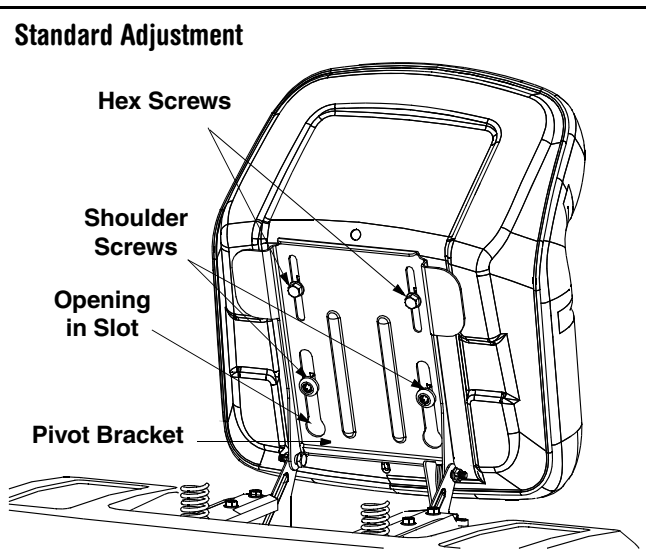
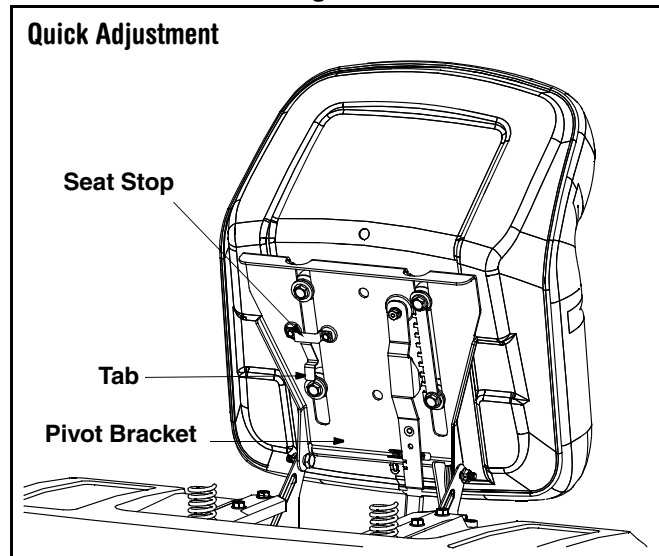
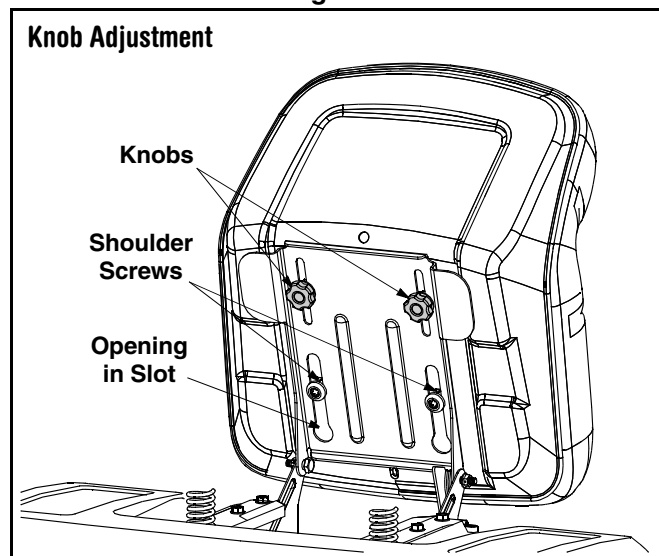

Figure 3
Figure 4
Figure 5
If the seat for your tractor did not come attached, refer to Figure 3, Figure 4, and Figure 5 to identify your tractor's seat style and follow the applicable instructions below to attach it.
1. Position the shoulder screws (found on the base of the seat) inside the slot openings in the seat pivot bracket. Figure 3.
3. Select desired position for the seat, and secure with the two hex screws removed earlier. See Figure 3.
NOTE: If your seat was shipped mounted backwards on the seat pivot bracket, pull out the tab found on the seat stop and hold it open while sliding the seat off the seat pivot bracket. See Figure 4.
2. Slide seat in until front seat spacer engages the seat stop. See Figure 4.
1. Position the shoulder screws (found on the base of the seat) inside the slot openings in the seat pivot bracket. Figure 5.
3. Select desired position for the seat, and secure with the two knobs removed earlier. See Figure 5.